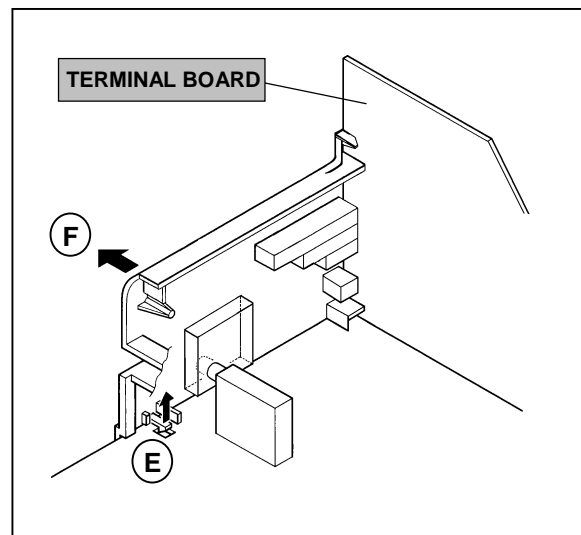

Fig. 1
- 2. After removing the claw marked (E) in the direction of arrow mark as shown in Fig.1.
- 3. When you pull out the TERMINAL BOARD in the direction of arrow marked (F) as shown in Fig.1, it can be removed.
(5) Receive channel setting Refer to the OPERATING INSTRUCTIONS (USER'S GUIDE) and set the receive channels (Channels Preset) as described.
(6) User settings Check the user setting items according to Table 2. Where these do not agree, refer to the OPERATING INSTRUCTIONS (USER'S GUIDE) and set the items as described.
(7) SERVICE MENU setting Verify what to set in the SERVICE MENU, and set whatever is necessary. (Fig.1) Refer to the SERVICE ADJUSTMENT for setting.